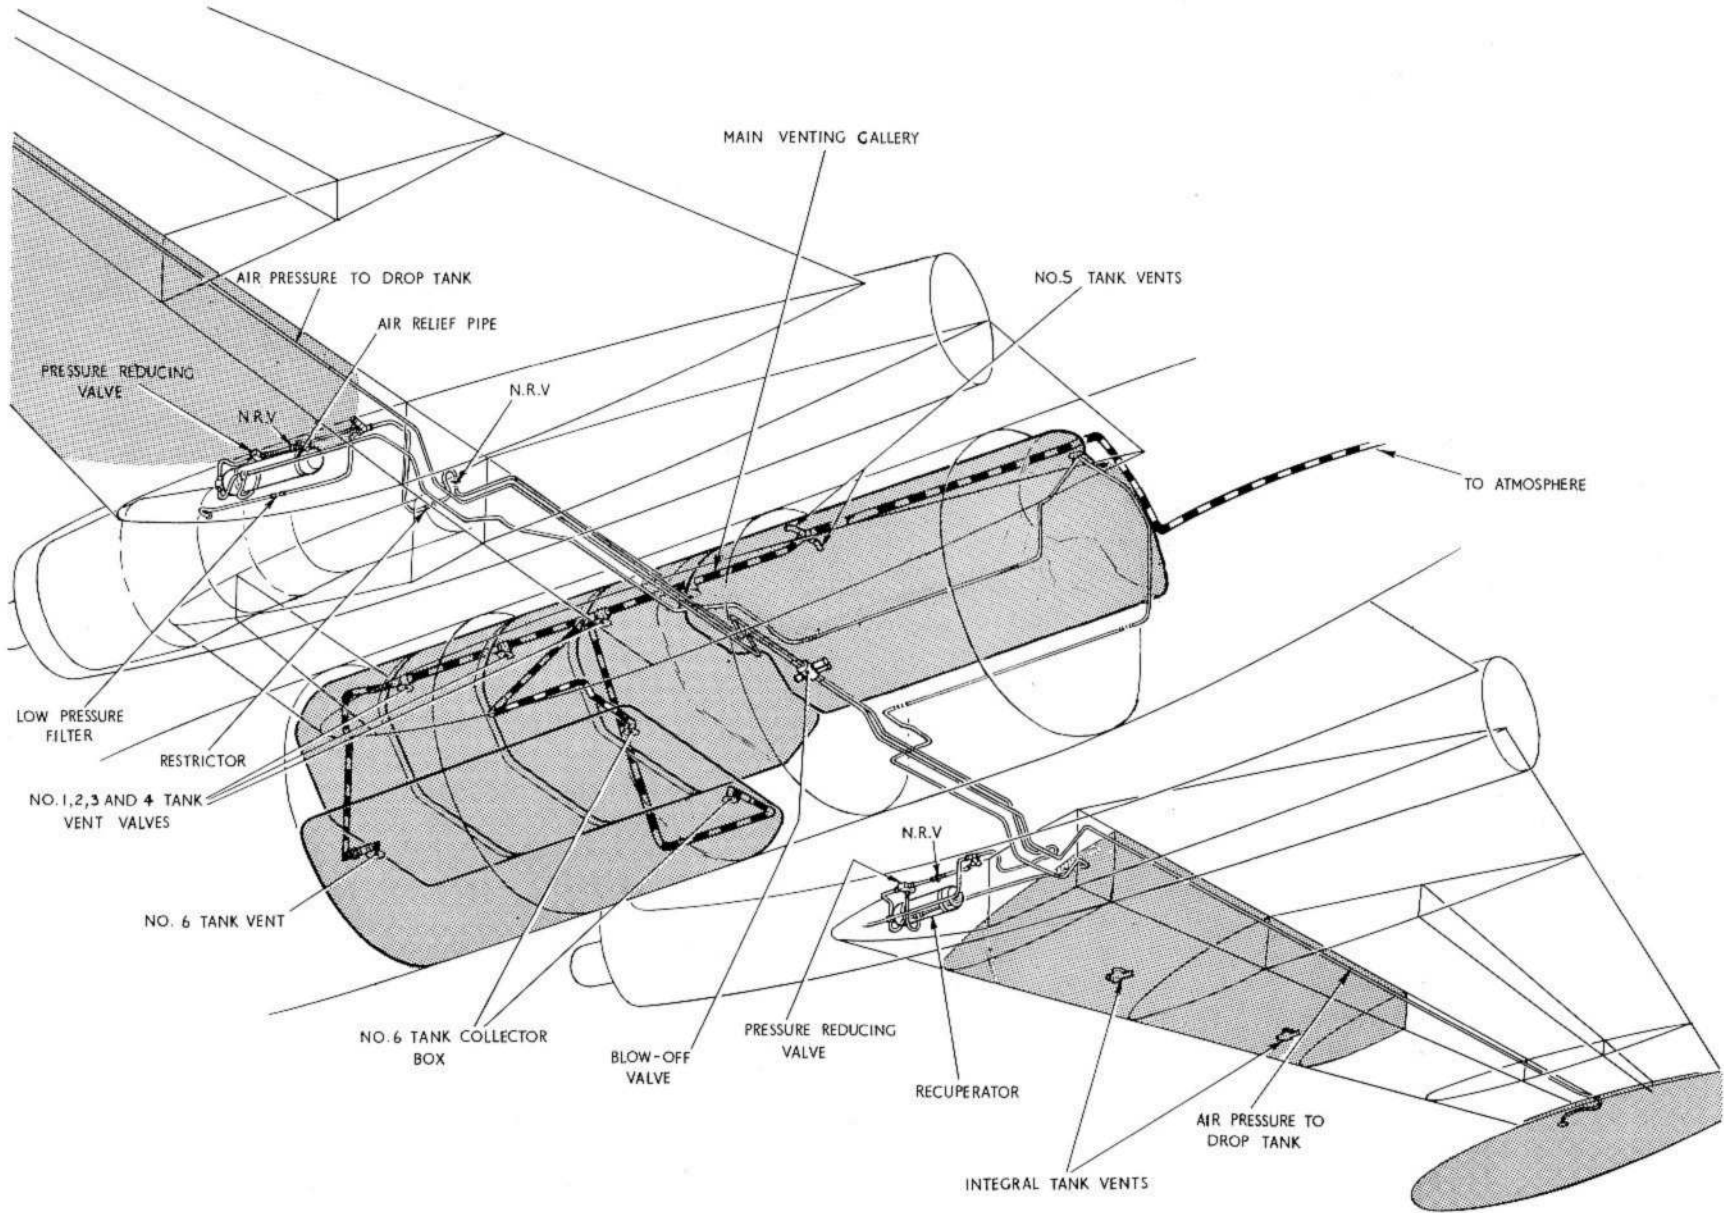

Fig. 3 Vent system
- (1) Remove the tank filler caps (Sect. 2, Chap. 4 fig. 3).
- (2) Remove the central screwed plug from the drain valve in the tank collector box.
- (3) Screw an adapter fitted with a length of hose into the plug orifice and lead the hose into a container.
- (4) Using spanner Ref. No. 26FZ/95269, unscrew the drain valve until the fuel flows freely.
- (5) When draining is complete, tighten the drain valve, remove the adapter and refit the plug and filler cap.